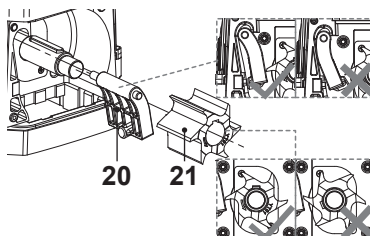

Fig. 14
4. If necessary, remove the counter blade (20) and cutting blade (21) (Fig. 14).